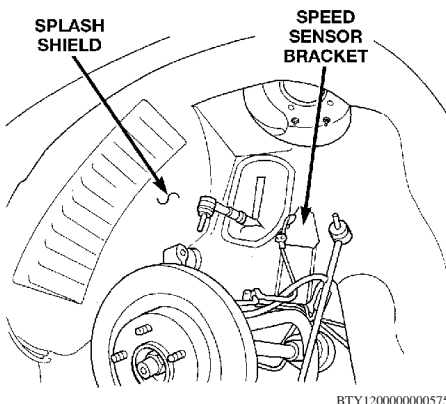

Fig. 9 Speed sensor mounting bracket location
- m. Remove speed sensor bracket mounting screws, then move bracket to access speed sensor wire connector, **Fig. 9**.